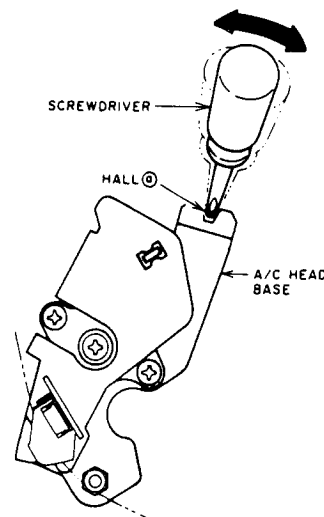

Fig. 5-8
- 4) Insert a sharpness screwdriver into A/C HEAD base and hall (a) as shown in Fig. 5-8.
- 5) Move the A/C HEAD base by moving a screwdriver in the directions of the arrow as shown in Fig. 5-8 to obtain the maximum RF envelope.